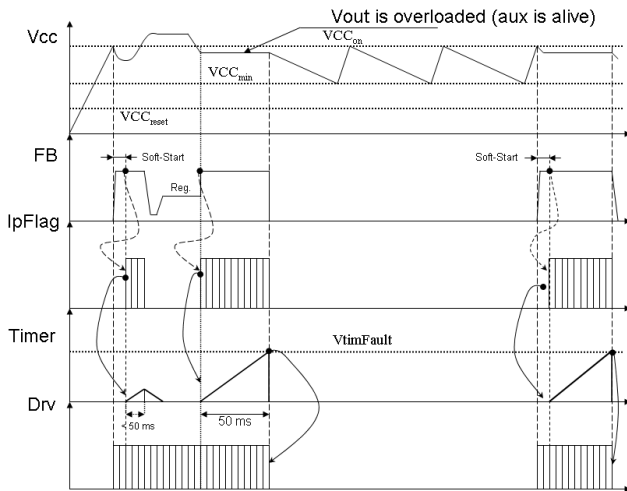
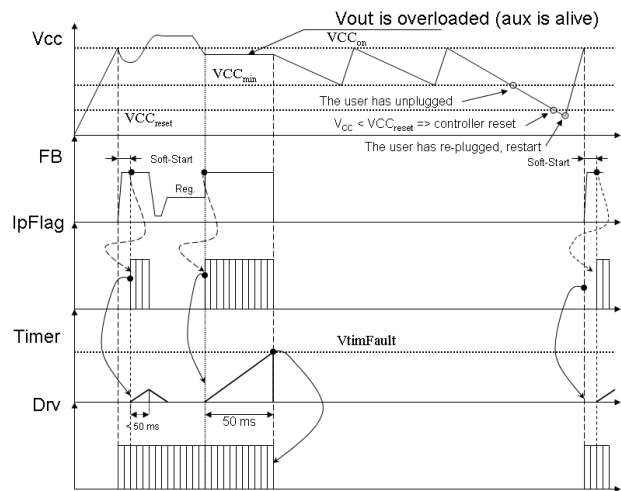

Figure 21. Short-Circuit Case Where V_{aux} Does NOT Collapse on Version B
Figure 22. Short-Circuit Case Where V_{aux} Does NOT Collapse on Version A
2. In the second case, the converter operates in regulation, but the output is severely overloaded. However, due to the bad coupling between the power and the auxiliary windings, the controller V_{CC} does not go low. The peak current is pushed to the maximum, the error flag IpFlag is consequently asserted and the timer starts to count. Upon completion, all pulses are stopped and triple-startup hiccup mode is entered for version B. If the fault goes away, the SMPS resumes operation (Figure 21). For version A, when the timer finishes counting, the pulses stop and the circuit stays latched until the user cycles down the power supply (Figure 22).